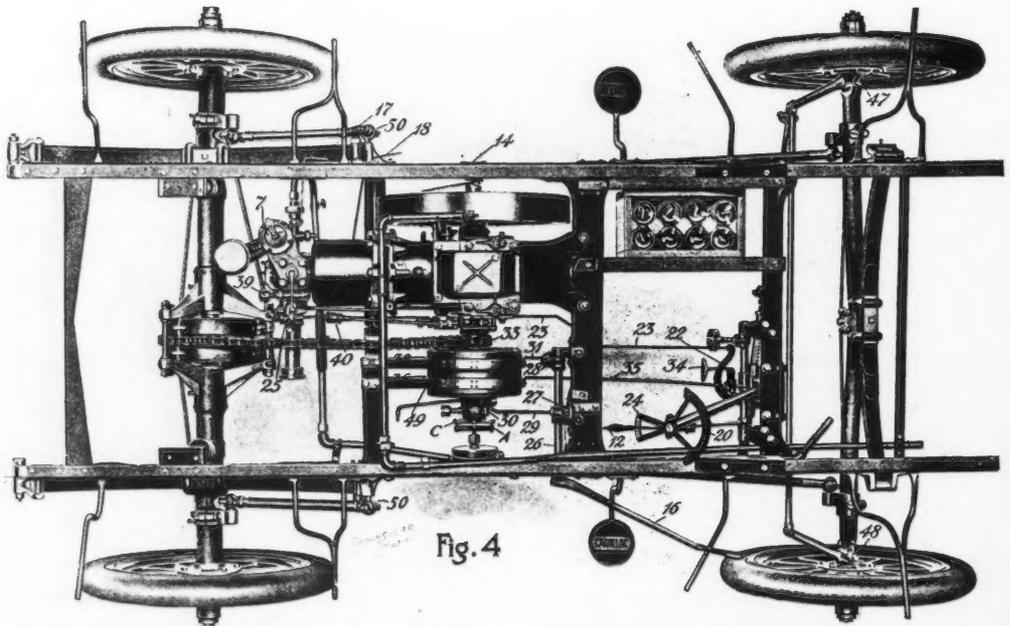

Fig. 4
Oil the transmission (49, Fig. 4) through the oil hole in the flange between it and the small driving sprocket (33) with about half pint of heavy lubricating oil at least as often as once per week. In cold weather a lighter oil should be used.
The wheel knuckles are oiled at 47 and 48, Fig. 4.
Radius rods (50, Fig. 4) should be oiled at both ends.
See that all grease cups (39, 40, Fig. 4, and 43, Fig. 4), are filled. The cups 39, 40 and 43 should be given a turn every two or three days. A small amount of powdered graphite mixed with the grease adds materially to its lubricating qualities and to the life of the lubricant, and also gives it more body for resisting the heat.
will show how the throttle lever (12) just under the steering wheel (20) extends down below the floor (21) and ends in an arm (22) which is connected to the rod (23, Fig. 4) so as to move the rod (23) endways as the lever (12) is shifted in its quadrant (24). Trace the rod (23) back and it will be seen to engage the throttle cam (25) at its rear end in such a manner that the throttle cam (25) is shifted by any endwise movement of the rod (23).
Referring to Fig. 4, the most important would be the high speed clutch (30). There are two clutch rings here that do not revolve, and that bear against the clutch disc on one side, and against the adjusting nut on the other, having a race of balls at each side which should have a little oil occasionally.
The three grease cups (40 and 43, Figs 3 and 4 and 39, Fig. 4) and the rolls which operate the inlet valve at (25) should have occasional attention. This makes a total of only nine places to oil on both the motor and the transmission gears. Remember that a properly oiled and adjusted motor may be turned by one finger against a spoke of the fly-wheel.
Nos. 10 and 11. Always be sure that you have water in the circulating system, and if the weather is cold see that the pump is not frozen, by trying the pump driver (A, Fig. 4) and see that the pump spindle turns freely **before** starting the motor. Otherwise, if you have no anti-freezing mixture, and the pump has frozen, you may break the blades inside loose from the shaft. Of course some mixture to prevent freezing **must** be used in cold weather.